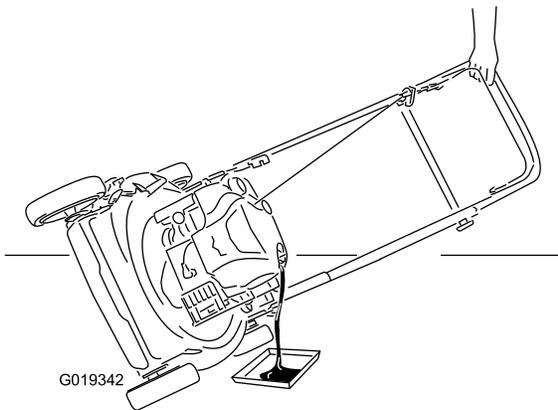

Figure 42
- Tip the machine onto its side, with the oil-fill tube down, to drain the used oil out through the oil-fill tube into the oil-drain pan (Figure 42).